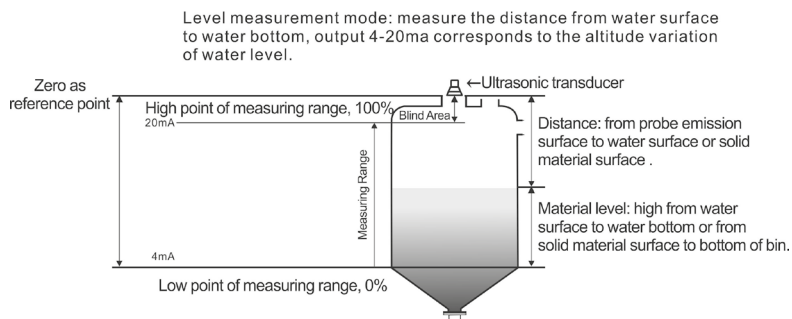

Fig. 1.2 Diagram of Material Measurement Level
2. Under material level measuring mode, the positions of reference zero point, maximum of measuring range and minimum of measuring range are as shown in Fig. 1.2.